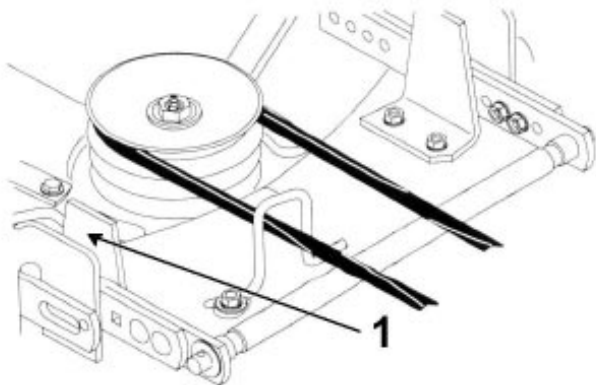

Figure 3
1. Remove the right side bracket guide (fig. 3).